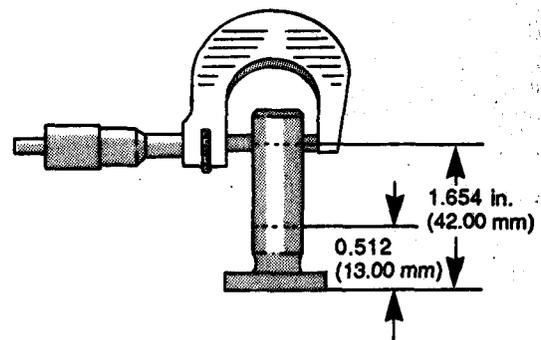

Figure 6-9
7. Using micrometer, measure eight valve tappet stems at locations shown (Figure 6-9).